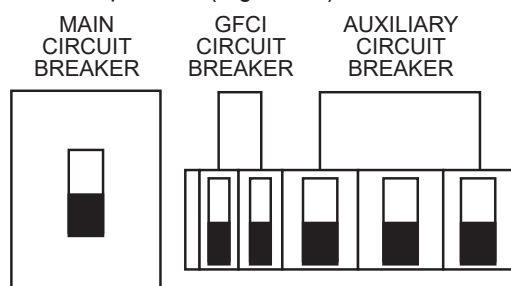

Figure 59. Main, Aux. and GFCI Circuit Breakers (OFF)
2. Place the **main, auxiliary, and GFCI circuit breakers** in the **OFF** position (Figure 59).
2. Place the **main, auxiliary, and GFCI circuit breakers** in the **OFF** position as shown in Figure 59.